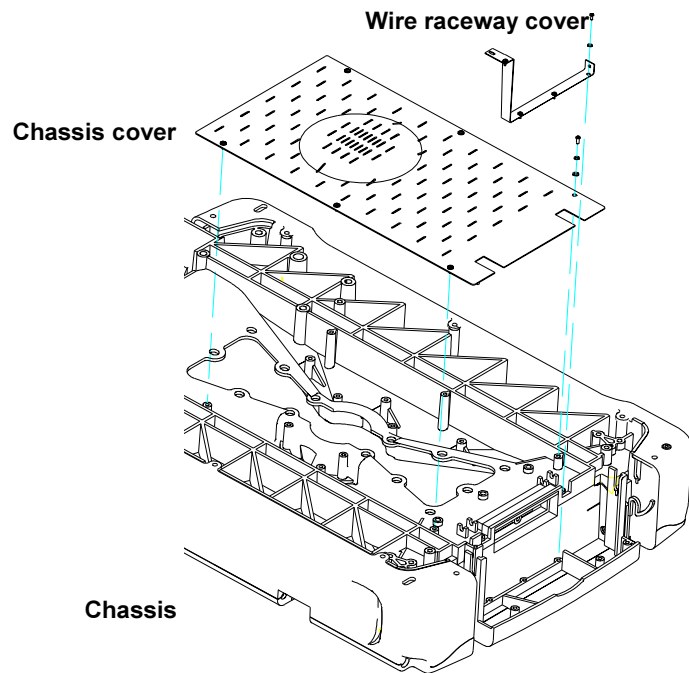

Figure 5-24
5.61 Removing the chassis cover with the storage drawer in place (Fig. 5-24)
5.9 Humidifier Repairs (Figures 5-24 and 5-26)